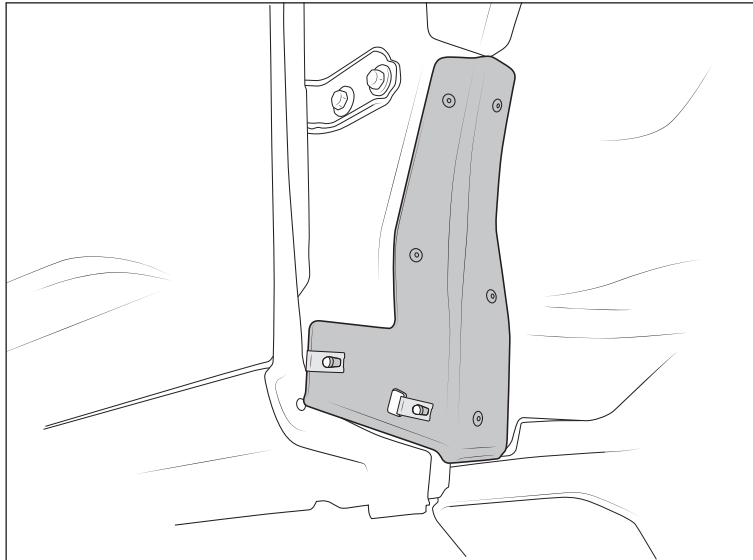

Figure 7
9. Install Closeout panels at the rear of the wheel wells (fig. 7):